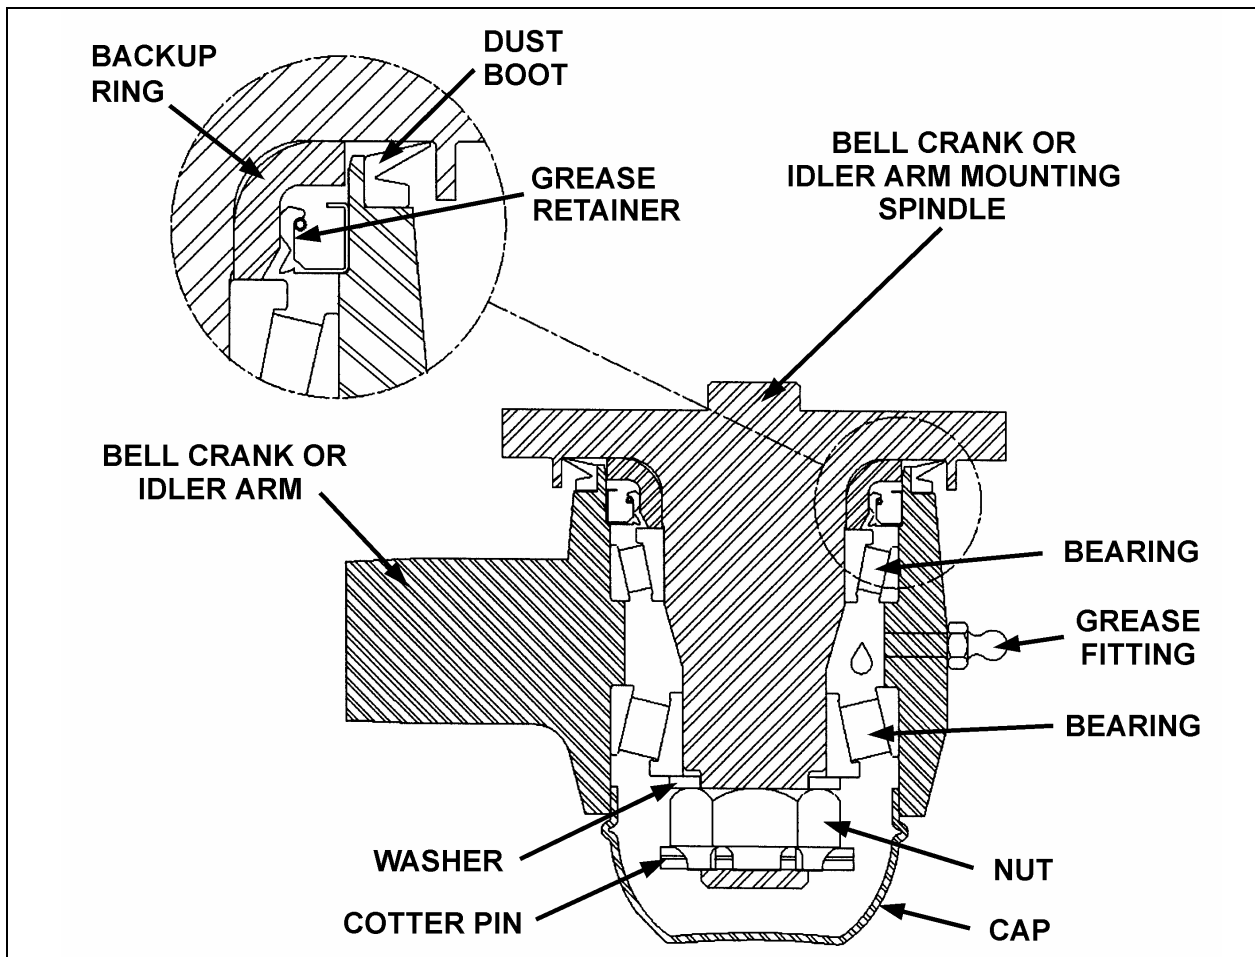

FIGURE 4: BELL CRANK OR IDLER ARM MOUNTING SPINDLE INSTALLATION
8. Firmly tighten nut (Fig. 4).
Bend cotter pin around the nut (Fig. 4). Do not bend the cotter pin in the direction of the cap, because it may interfere with the cap.